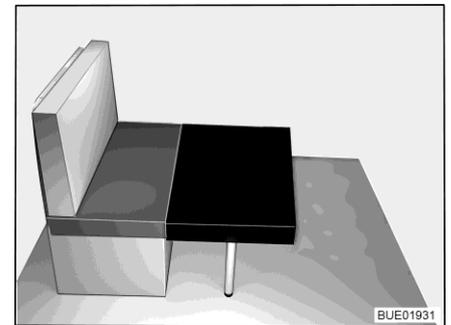

Fig. 69 Conversion (1)
- Place the small additional cushion onto the table in front of the seat cushion of the bench (refer to Fig. 69).